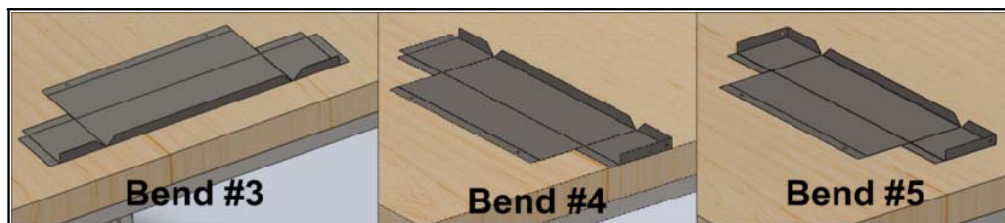

Figure 8: Bend #3 – Bend #5- Finished work piece after Bend #3, #4, and #5.
B. Bend #3 – Bend #5 should be completed as shown in Figure 8.